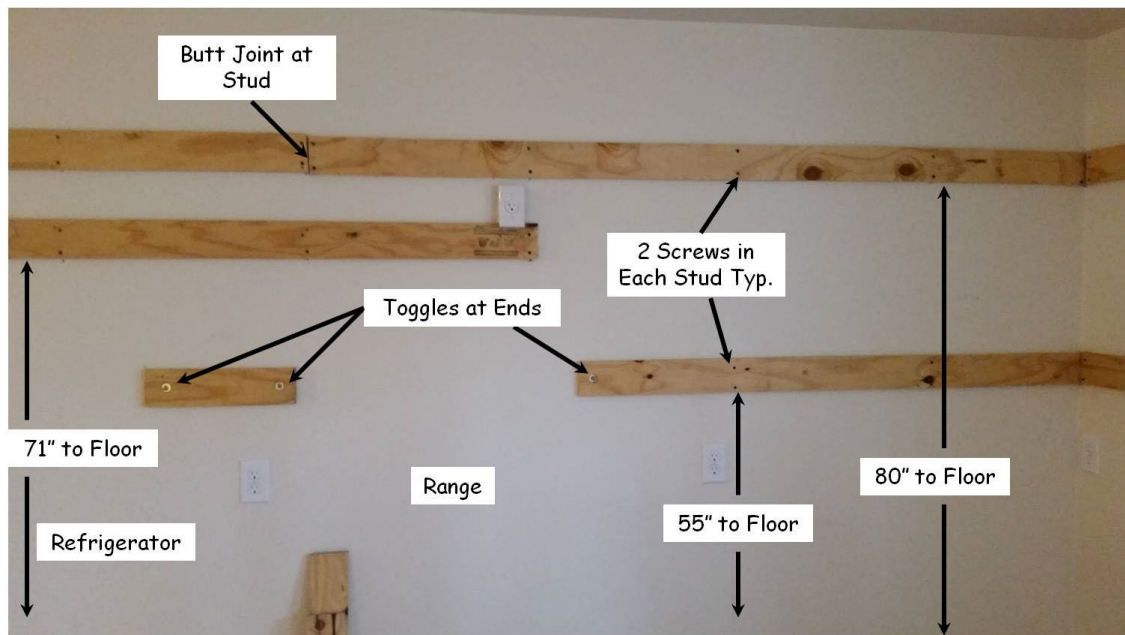

Figure 17-1. Kitchen Cabinet Support Strips.
5. The upper kitchen cabinets will be installed by mounting them to 2-7/8" wide strips of 3/4" thick plywood. This installation method is used because the screws holding up the cabinets go into the continuous plywood, rather than having to precisely locate the cabinet screws to hit a stud while holding them in place. The cabinets are 30" tall, with the top of the cabinet 84" and the bottom 54" from the floor. The top plywood support strip will be located about 1" down from the top, and the bottom of the lower strip about 1" up from the bottom of the cabinets. The following steps refer to Figure 17-1.
NOTE: The 71" dimension in Figure 17-1 for the bottom strip location for cabinets above the stove and refrigerator is for 14" cabinets. For other size cabinets, adjust the bottom strip position so the bottom of strip will be 1" above the bottom of the cabinet.